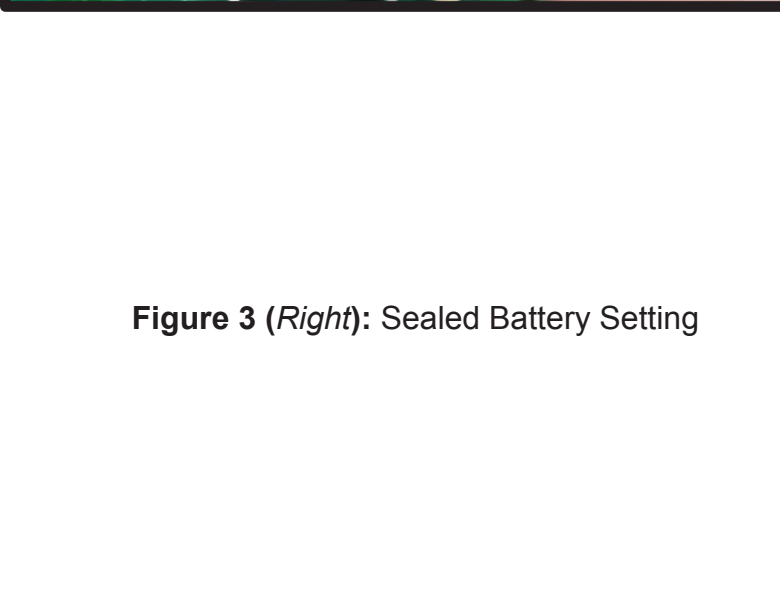

Figure 3 (Right): Sealed Battery Setting
- The above procedure can be repeated to revert a different battery chemistry setting – **see Figure 3.**